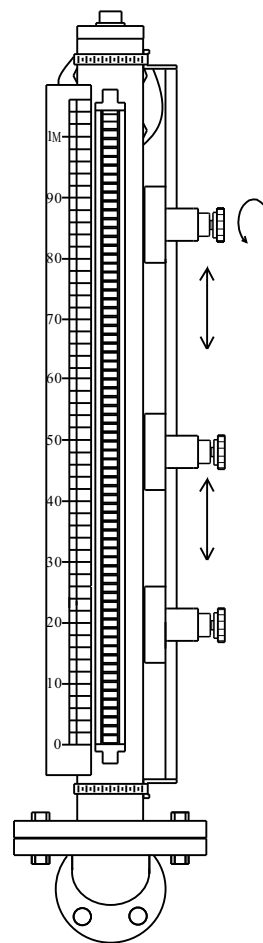

fig. 3
9. The magnetic switch (BPB-14 series) is to be placed on a riding rod, then fastened the riding rod to the chamber with two hose clamps. (see page 19 - fig.3)